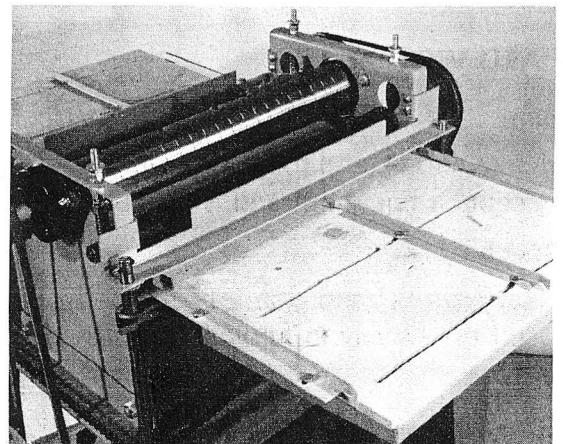

Fig. 19
7. Adjust the knife to the desired position. If using a three knife set, align the three knives. There are several grooves spaced at 1" intervals along the length the cutterhead to help in the alignment of the knives. (fig. 19)